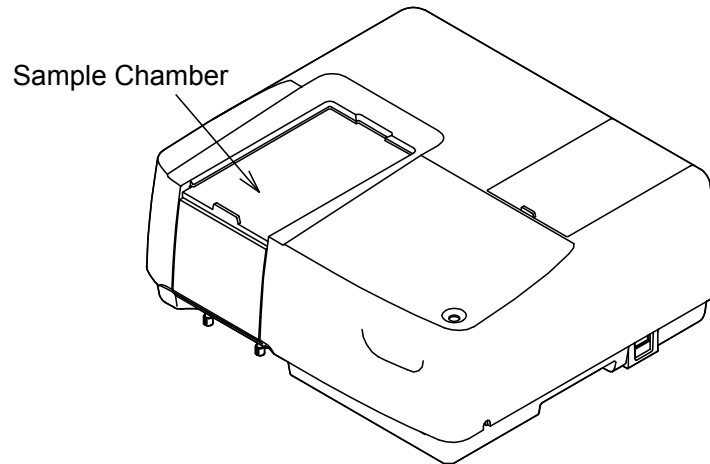

Figure 3.20 Sample chamber
Note: If the <Measure> button is clicked without putting a check mark to [Full Wavelength], measurement will start immediately without displaying Fig. 3.20. In this case, the partial baseline is measured (see Section 4.2.1.3 [Baseline (B)...]).
- (4) Make sure that the sample chamber is empty. Click <Start> to begin measurement. The measured baseline is saved in memory. At the same time, the [Baseline Correction] checkbox is selected. To confirm that the [Baseline Correction] checkbox has been selected, do step (1) again.